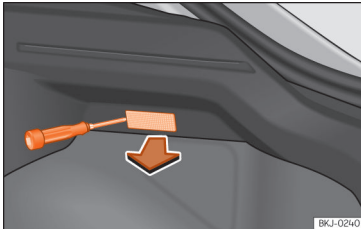

Fig. 58 Boot light.
- Extract the bulb by pressing on its inside edge using the flat side of a screwdriver »» **Fig. 58.**